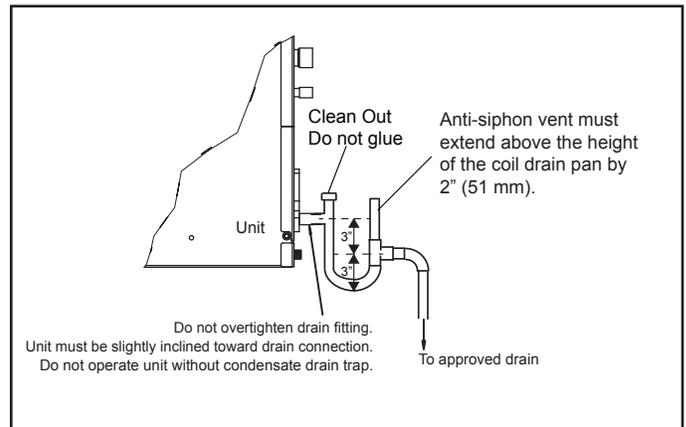

Figure 13. Condensate Drain Trap
5. Install a 3" trap in the main (primary) drain lines as close to the unit as practical (see Figure 13). Make sure the top of the trap is below the connection to the drain pan to allow complete drainage of the pan.
NOTE - Horizontal runs must have an anti-siphon air vent (standpipe) installed ahead of the horizontal run. See Figure 13. An extremely long horizontal run may require an oversized drain line to eliminate air traps.